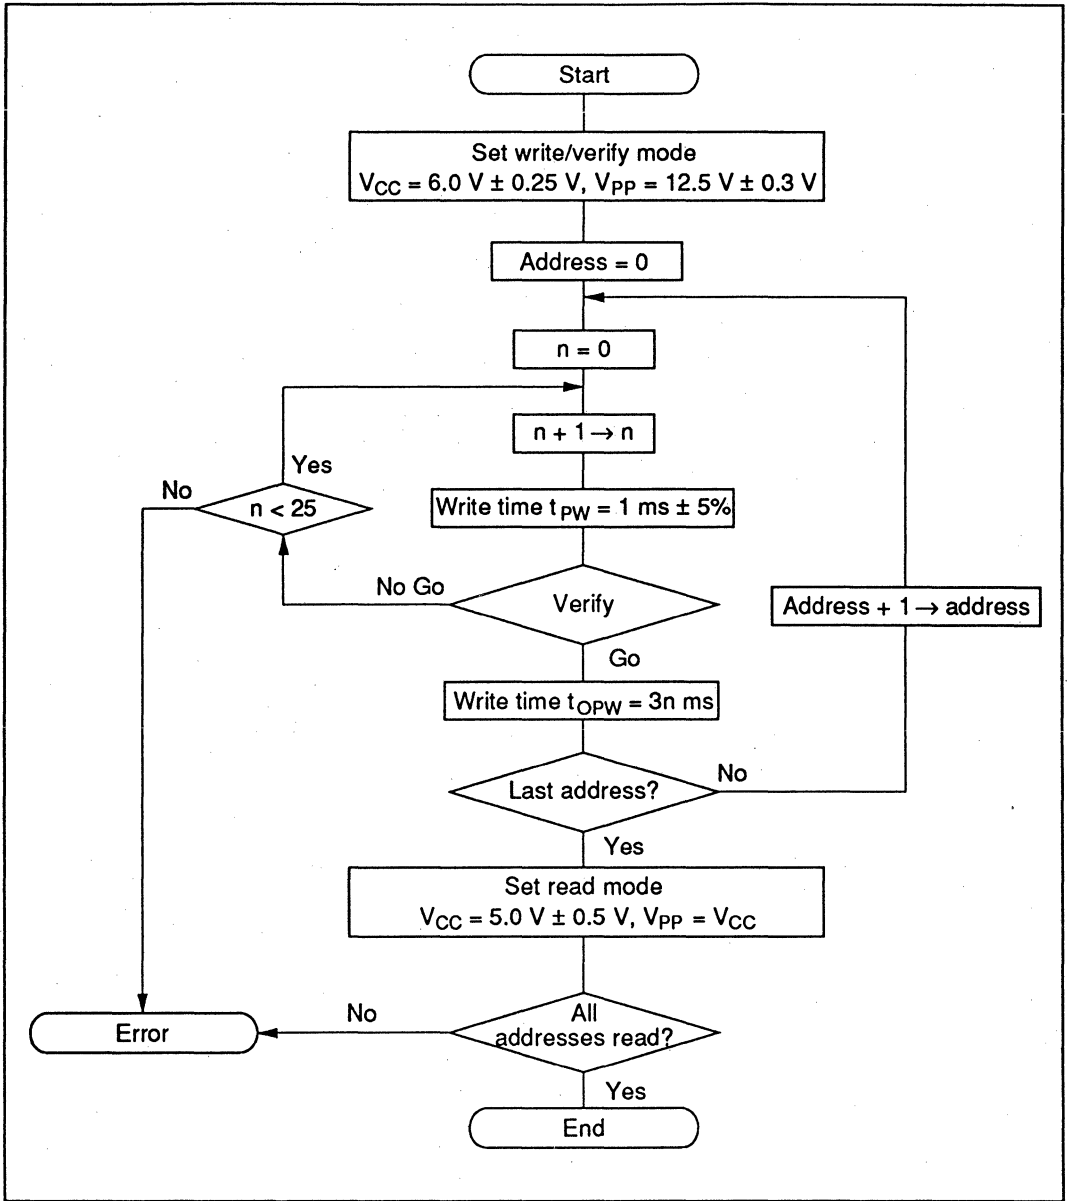
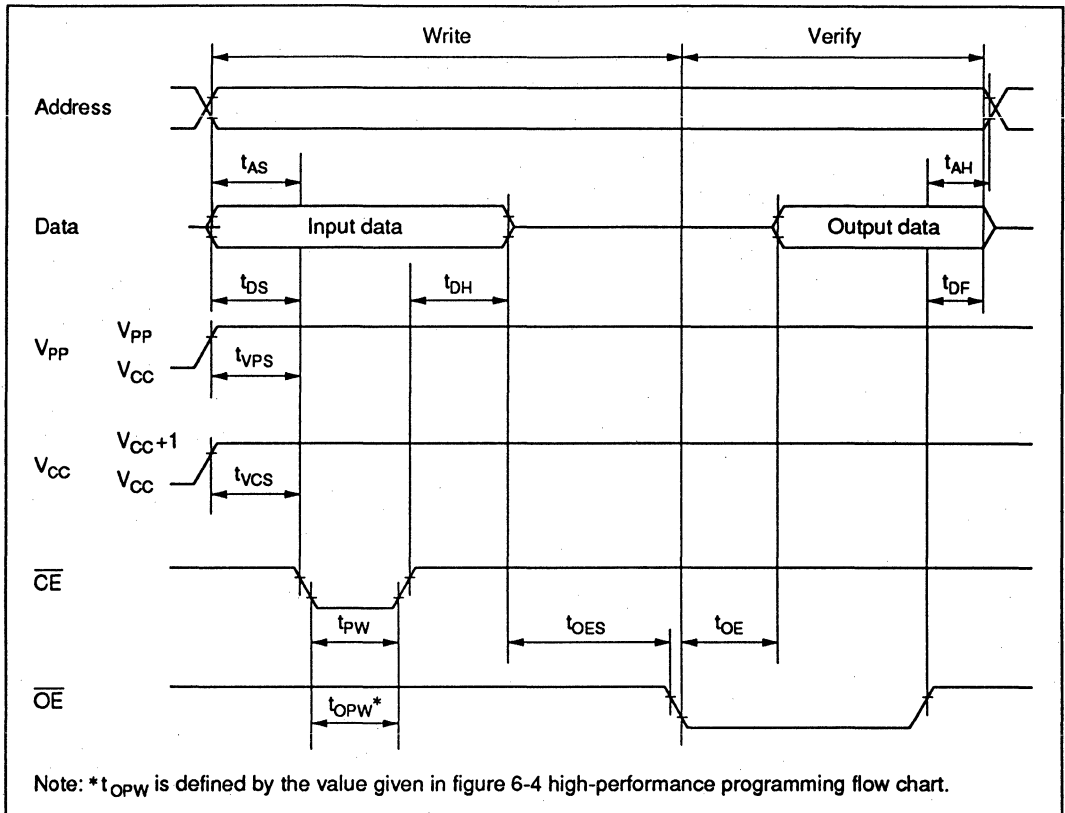

Figure 6-4 High-Performance Programming Flowchart
Figure 6-5 PROM Write/Verify Timing
The basic flow of this high-performance programming method is shown in figure 6-4. Table 6-4 and table 6-5 give the electrical characteristics in programming mode. Figure 6-5 shows a write/verify timing diagram.
3.  $t_{OPW}$  is defined by the value given in figure 6-4 high-performance programming flow chart.